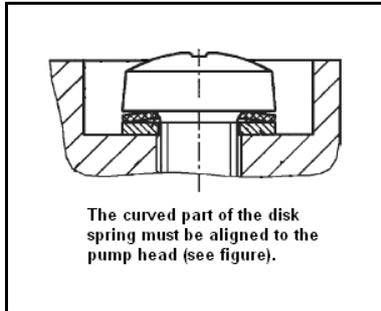

Fig. 6: Orientation disk spring
1. For one pump head: Undo the screw (7).
2. Separate the head plate (4) from intermediate plate (1).
3. Remove the valve plates/sealings (2) from the intermediate plate (1).
4. Check that the valve seats, intermediate plate (1) and the head plate (4) are clean; if scratches or distortion are evident on these parts they should be replaced.
5. Lay the new valve plates/sealings (2) in the recesses in the intermediate plate (1). The valve plates/sealings for suction and pressure sides are identical, as are upper and lower sides of the valve plates/sealings.
6. Check that the valve plates/sealings (2) are not deformed by moving them gently sideways in their recesses.
7. Place the head plate (4) on the intermediate plate (1), in the position indicated by the marking (M).
8. Check that the head plate (4) is centred by moving it gently sideways.
9. Join the head plate (4) and the intermediate plate (1): Tighten the screw (7) (tightening torque: 70 Ncm).
i For placement of disk spring (15) and washer (16) and for orientation of disk spring see fig. 6.